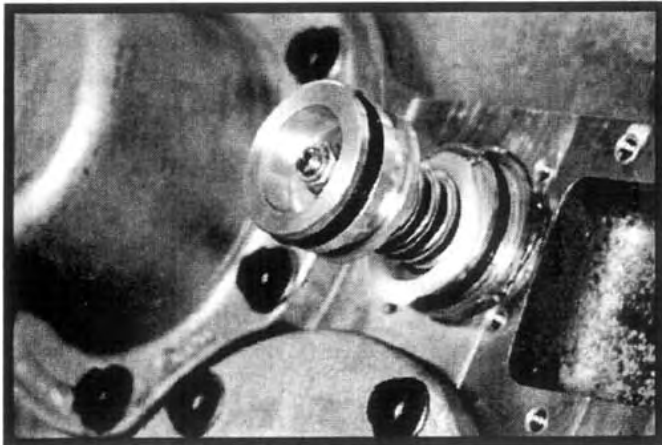

Figure 6.54
41. Assemble the high/low range air shift cylinder as follows: Install two new O-rings on the shift cylinder adapter tube and push into the rear transfer case housing bore. See Figure 6.54. The end of the tube with the counterbore must face outward.